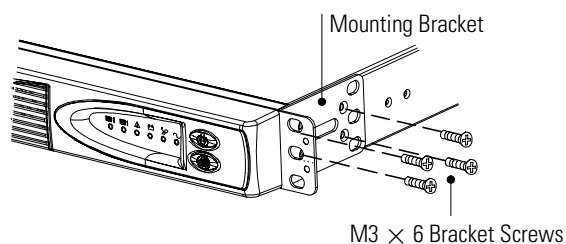

Figure 2. Mounting Bracket for a 19" Rack
2. On each side of the UPS, attach the long end of a mounting bracket to the UPS using four of the supplied M3 × 6 screws (see Figure 2).